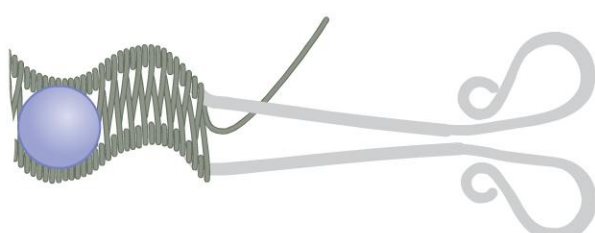

figure 6
- 18 Follow Steps 6–11 of Autumn Leaf Bracelet (page 110) to form the spiral ends (Figure 6).